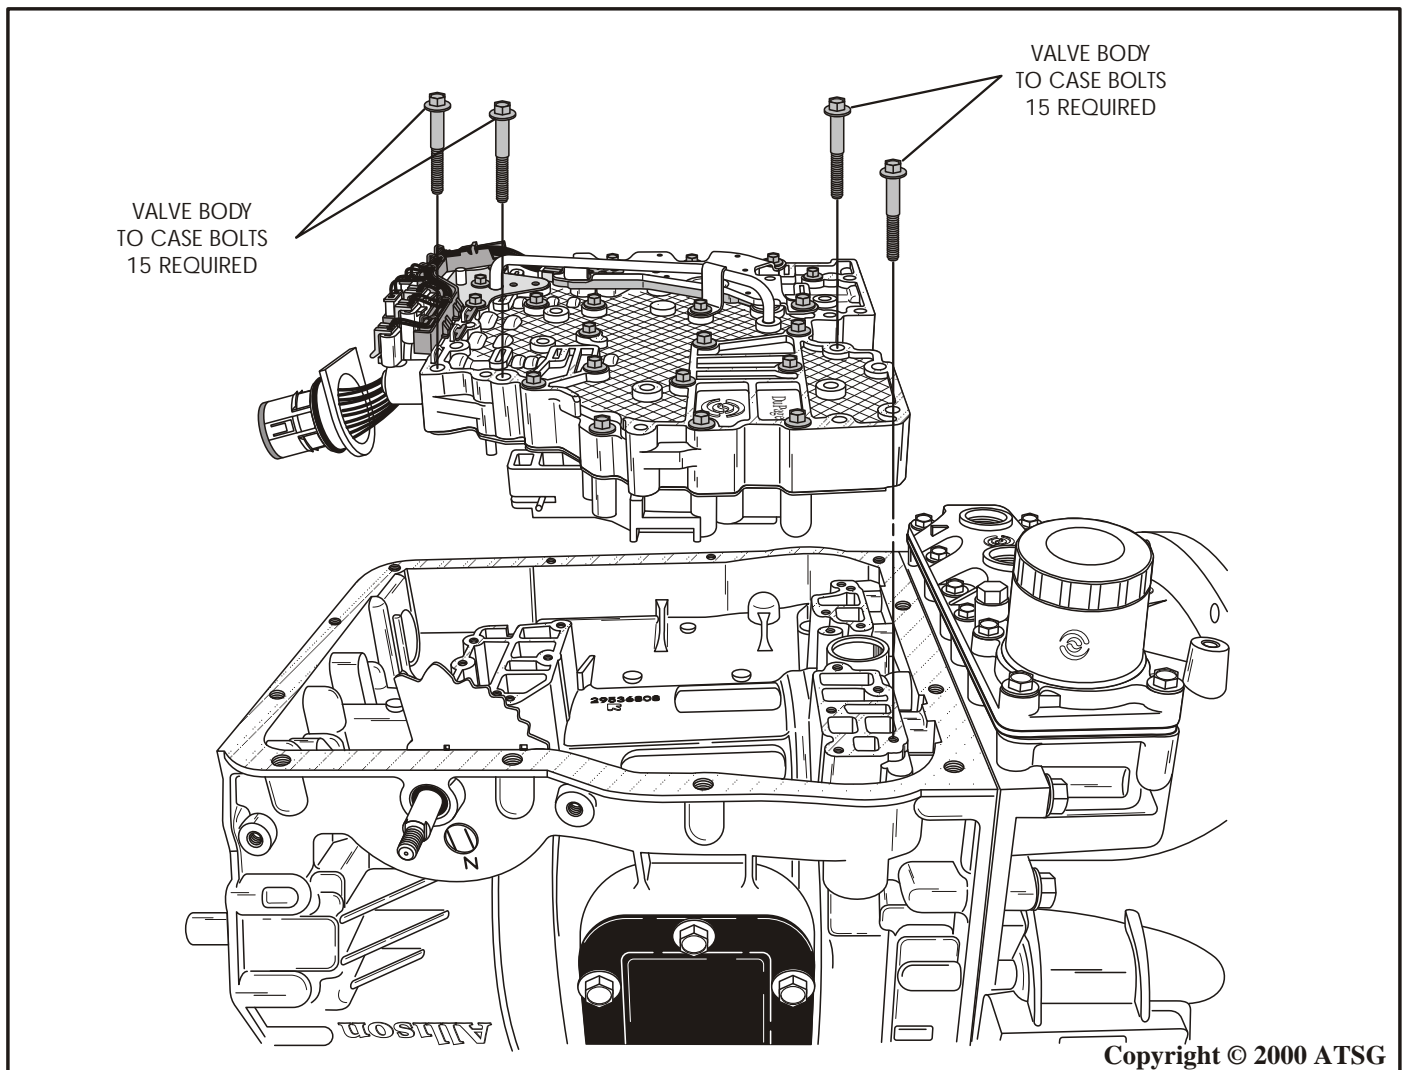

Figure 51
17. After the 15 valve body bolts are removed, you can remove the valve body, ensuring that you disengage the manual valve pin from the inside detent lever, as shown in Figure 51.